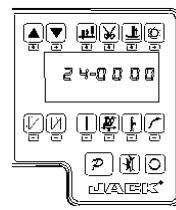

Fig.4-2
Step 1: Press and keys, enter monitor mode to the NO. 24th monitoring parameters. As shown in Figure 4-2
Step 2: Turn the handwheel so that the wiper to the position of the up needle position, LCD will show a mechanical angle of deviation. As shown in Figure 4-2 Legend.
Step 3: Press the and keys, LCD display 240000 (previous step mechanical deflection angle zero) to prove that the needle position set. As shown in Figure 4-2 Legend: